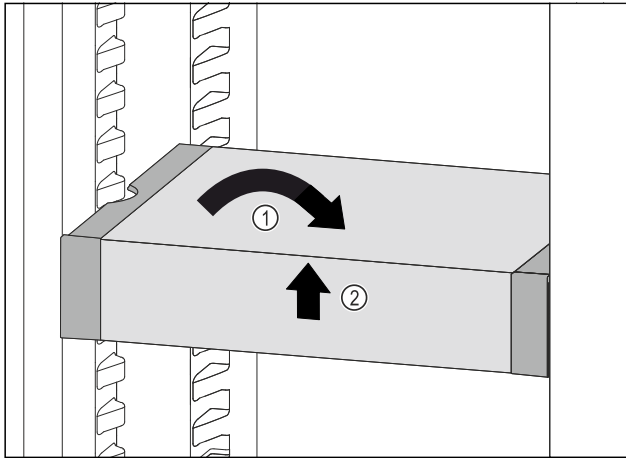

Fig. 101
- Set VarioSafe straight. *Fig. 101 (1)*
- Lift VarioSafe at the front. *Fig. 101 (2)*